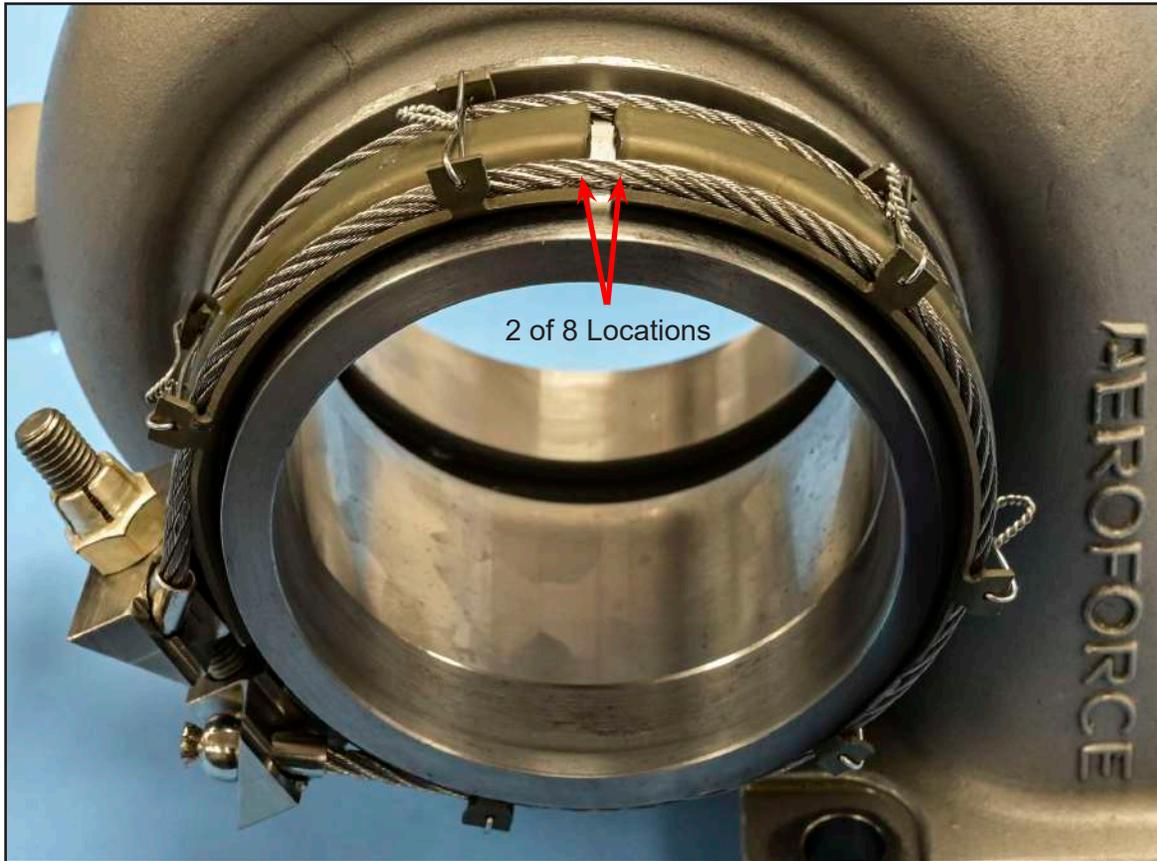

Figure 4.1 - V-Band Retainer/Cable Interface Locations
- (1) Visually Inspect flanges for carbon deposits, cracks and distortion.
- (2) Visually Inspect hex bolt for bends, distortion, cracks and thread damage.
- (3) Visually Inspect the clamp V-bands for cracks.
- (4) Visually inspect the V-band tension cables for damage/wear especially in the areas where the cables interface with the V-band retainers. Refer to Fig. 4.1
- (5) Visually inspect the interior of the V-band clamp retainers for indications of the exhaust flanges bottoming out in the V-apex of either.
- (6) Visually inspect the inner bend radii of the V-band clamp retainer segments for cracks. Inspect the radii throughout the length of the segments. Backlighting may assist here.
- (7) Refer to § 4.4 for Unstatisfactory Conditions.